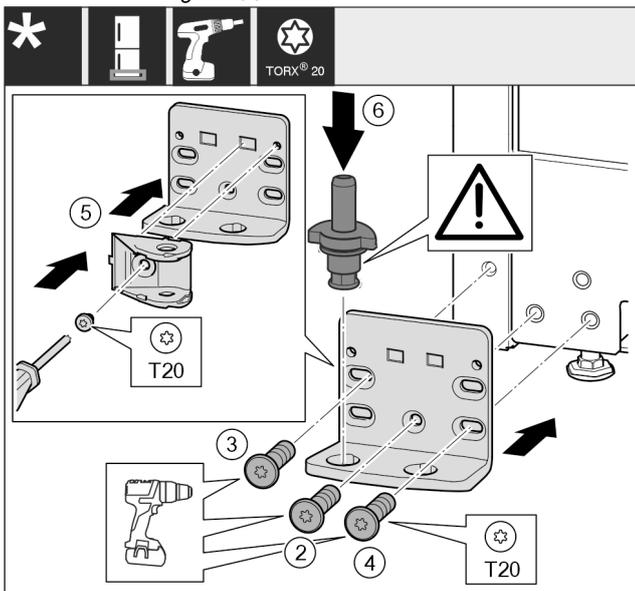

Fig. 43
- ▶ Place the swap bearing block on the other side and use a screwdriver to screw it on. Start with the screw Fig. 43 (2) at the bottom in the middle.
- ▶ Tighten screw Fig. 43 (3) and screw Fig. 43 (4).
- ▶ Turn the closing damper connection Fig. 43 (5) by 180°. Use screwdriver to screw it onto the other side of the swap bearing block.
- ▶ Insert the bearing bolt Fig. 43 (6) completely. Ensure that the latching cam is pointing towards the rear.